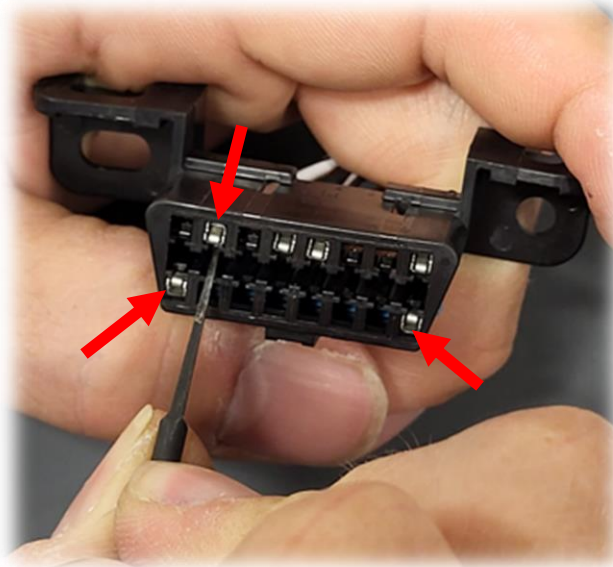

Figure 27
25. Using terminal removal tool insert it into front of OBD2 port and push down on plastic fingers that are holding terminals in place (Figure 27). Once the retention finger is moved down you can pull the wires out the back of connector. Remove the Tan wire at Pin 9, Purple wire at Pin 2, and Orange wire at Pin 16.